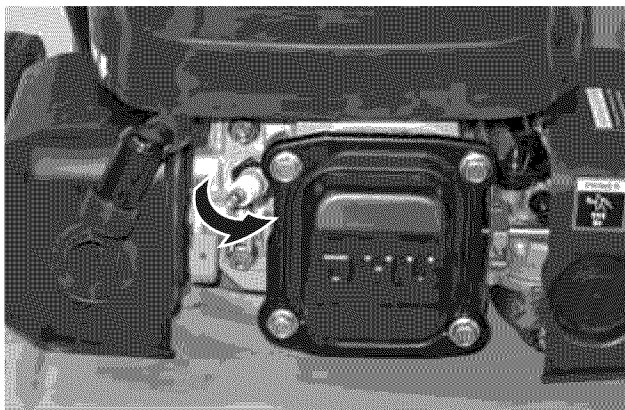

Figure 34 – Removing Spark Plug
5. Remove the spark plug from the cylinder head (see *Figure 34*).